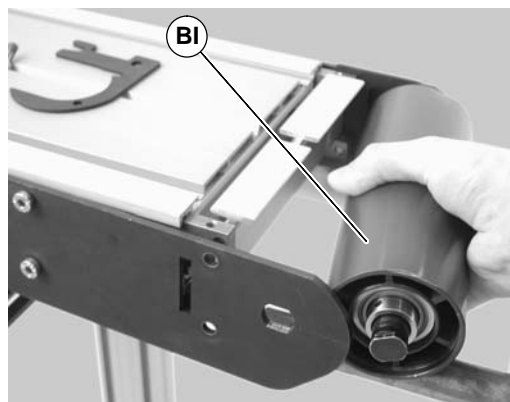

Figure 46
4. Slide the idler pulley assembly (BI of Figure 46) out of the headplate on the opposite side.